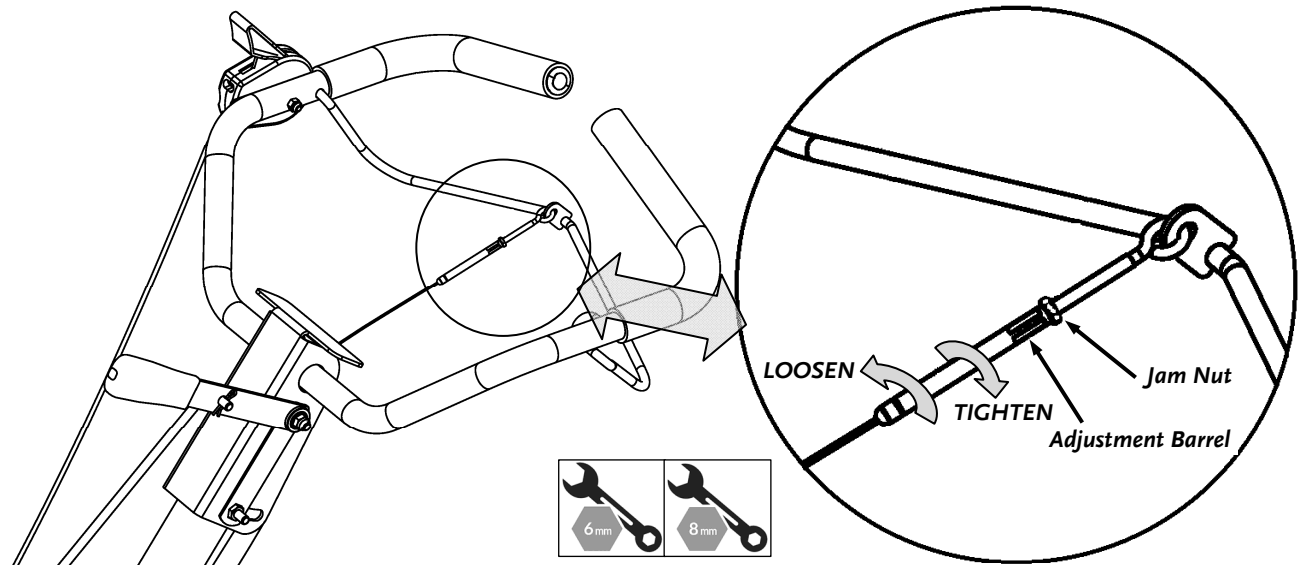

Figure 13
1. Loosen the jam nut by turning it counter clockwise with 8mm wrench while holding the adjustment barrel in place with 6mm wrench. (see Figure 13)
2. Tighten (or loosen) the cable by turning the cable adjustment barrel clockwise (or counter clockwise) with a 6mm wrench until you have reached your desired tightness. (see Figure 13)
3. Once you have reached your desired cable tension, hold the adjustment barrel with a 6mm wrench and tighten the jam nut by turning it clockwise until it is tight. (see Figure 13)